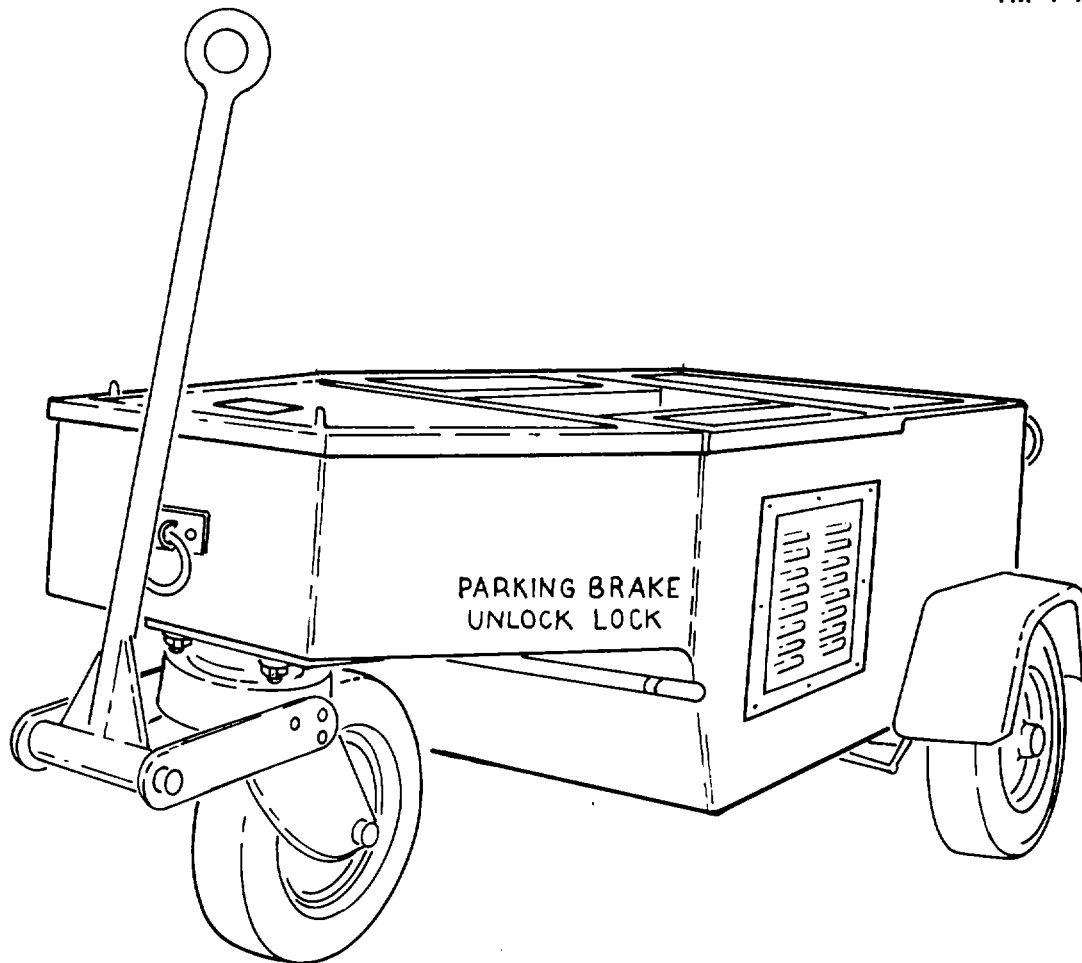

Figure 9-19. Pre-Oiler and Pickler
l. Pre-Oiler and Pickler. The pre-oiler and pickler, shown in figure 9-19, is capable of delivering a constant supply of corrosion preventive compound (pickling) at 3 gpm and a temperature between 150 and 230°F (66 and 110°C) with a pressure that should not exceed 250 psi. It is also capable of delivering pre-oiling fluid at 3 gpm and a temperature between 150 and 175°F (66 and 79°C) with a pressure of 175 psi. The servicing hose is 25 feet long.